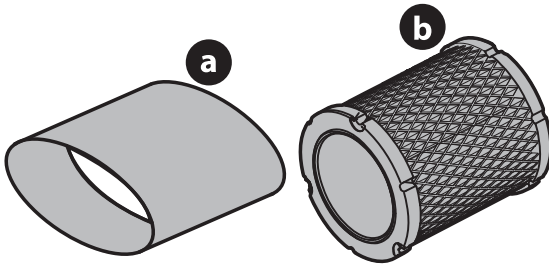

Figure 10
4. Remove the foam pre-filter (a) from around the paper air filter (b) (Figure 10). Replace paper element when dirty or damaged. Clean foam element or replace when damaged.